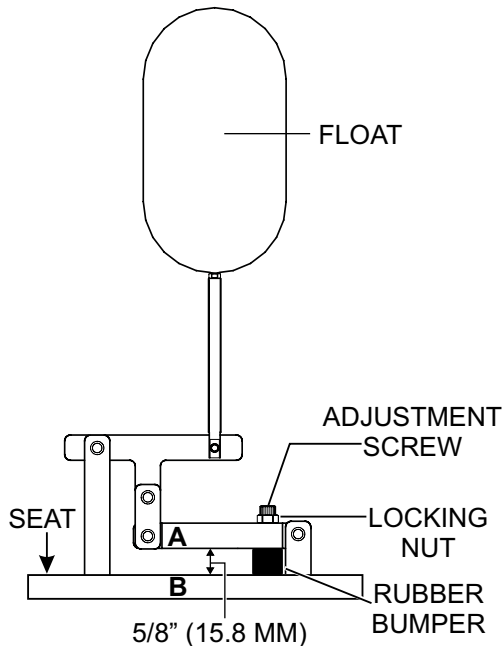

Figure 46. Float Adjustment
3. Measure the gap between points “A” and “B” as shown in Figure 46. This is done with the float causing the rubber bumper to rest lightly against the seat.